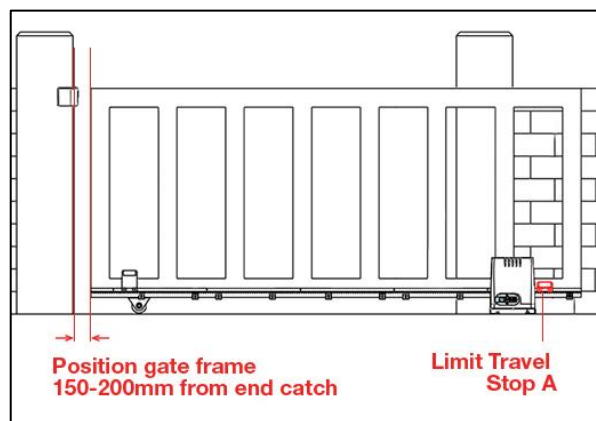

Fig 19
These limit travel stops activate when the magnets travel past a magnetic limit switch sensor under the motor cover (refer to Fig 19 & 20). See page 32 for an image of the magnetic limit switch sensor.
- Position Magnetic Limit Travel Stop A (**SMALLER**) central to the magnetic limit switch sensor on the motor (as per fig 19).
- The gate will stop when the magnetic limit travel stop reaches the magnetic limit switch sensor during closing (refer to figs 19 and 20).
- The gate will stop when the magnetic limit travel stop reaches the magnetic limit switch sensor during opening (refer to figs 19 and 20).